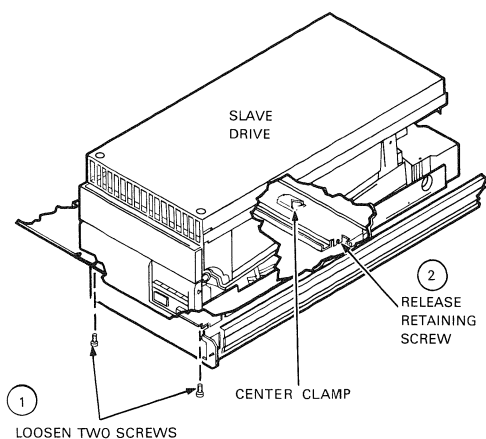

Figure 4-19 Releasing the Rackmount Component Assembly from the Chassis
4. Release component assembly from chassis by turning a screw on left (for master drive) or right (for slave) side of chassis (Figure 4-19). In both cases, turn screw counterclockwise to release assembly.
5. Tighten side screw securing component assembly to chassis (Figure 4-19).